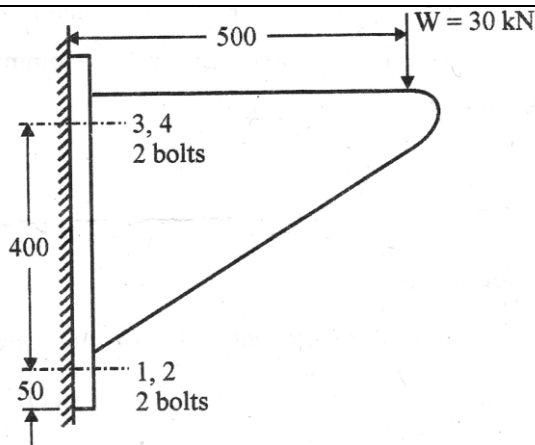

Fig. No. 1
c)	A bracket as shown in fig.no.1 is fixed to the wall by means of four bolts. Find the size of the bolts if <math>\sigma_t = 70 \text{ N/mm}^2</math> for bolt material.